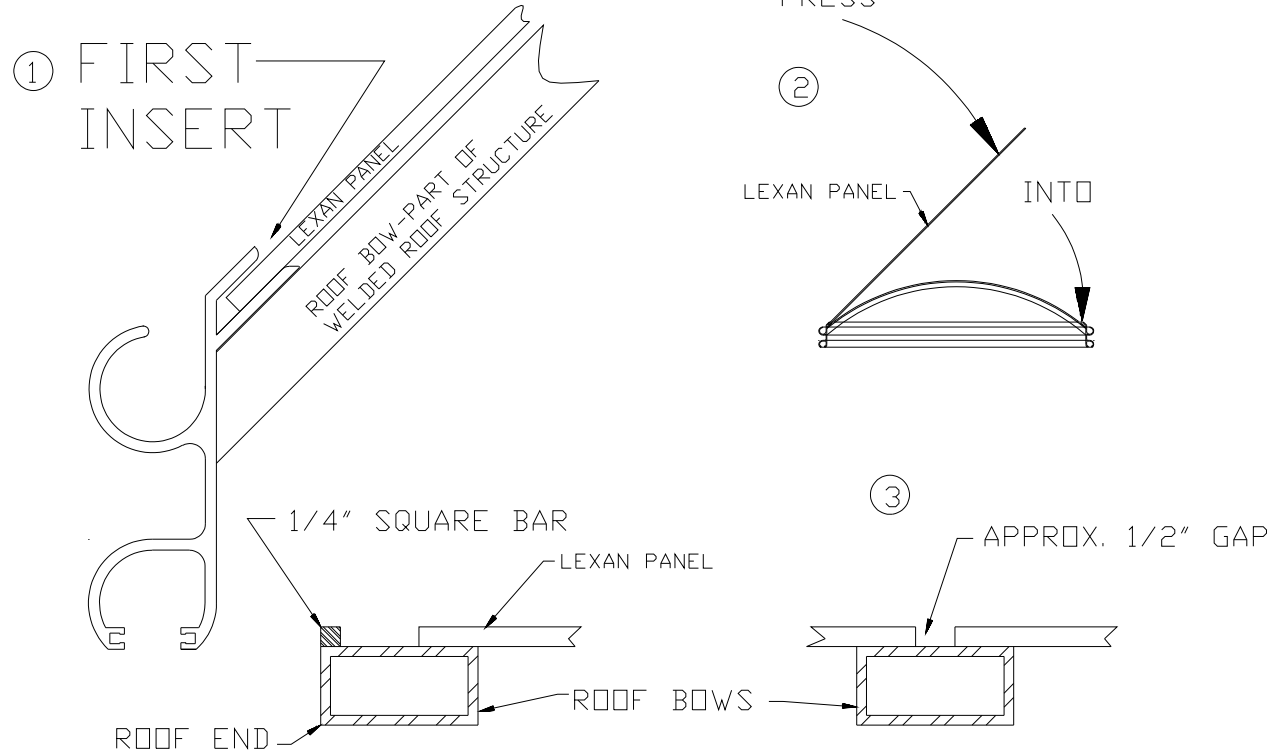

FIG 1
1. There is a film on both sides of the Lexan panel. Examine the panel and note which surface is to be faced externally. Remove film from both sides of Lexan panel. Install edge into groove as shown in Fig 1 (Page 5). Press the panel over the top and into groove on opposite side. There should be a 1/2" gap between panels. Press down firmly so the panel contacts the roof bow at its top.